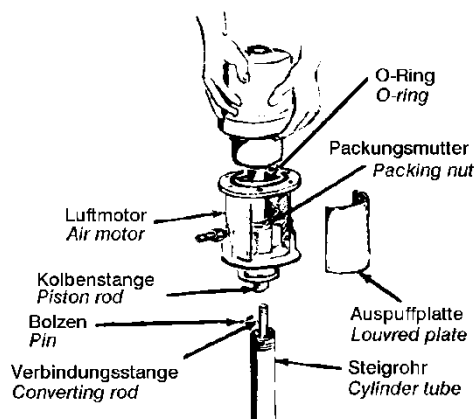

figure 1
- Screw the displacement cylinder out of the base, pull it away from the base far enough to allow the pin to be removed. Remove the pin and screw the connecting rod out of the piston tube (see figure 1).
- Take off the exhaust plate and, using a special spanner or a 6 mm bar, remove the packing nut (see figure 1). Remove the guide, gasket, washer and packing from the base, clean and check them and renew if necessary. If the packing is renewed, renew also the gasket and guide. Reassemble the parts in the reverse order. Loosely screw on the packing nut in the motor base.